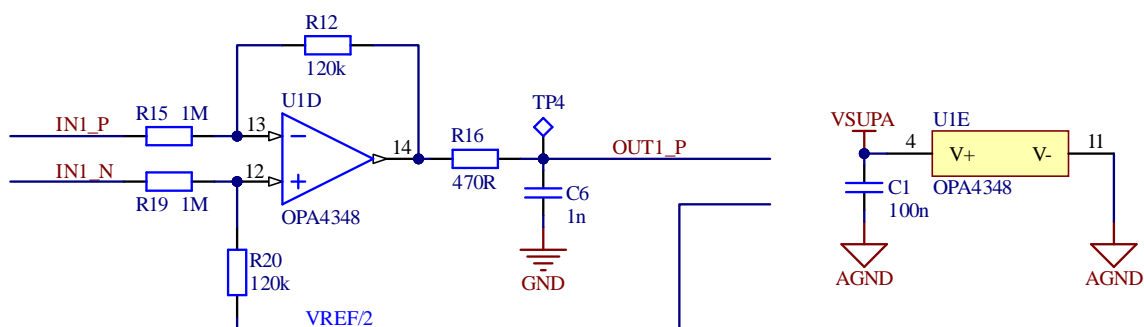

Figure 1 – input differential amplifier circuit
2. *Analyze the input differential amplifier circuit (Figure 1) and try to identify the critical parts. Also, consider how the individual circuit components can be used in the most beneficial way to make a better circuit design.*